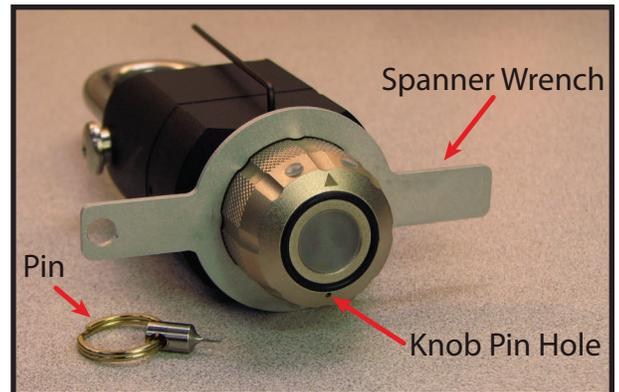

Figure 2: *Knob Pin Hole, Pin and Spanner Wrench*
- 3.1) Slide the provided spanner wrench over the knob as shown in Figure 2.
- 3.2) While maintaining pressure on the Allen wrench, insert the provided pin into the pin hole on the front face of the knob and push it in until the pin stops. See Figure 2 and 3.